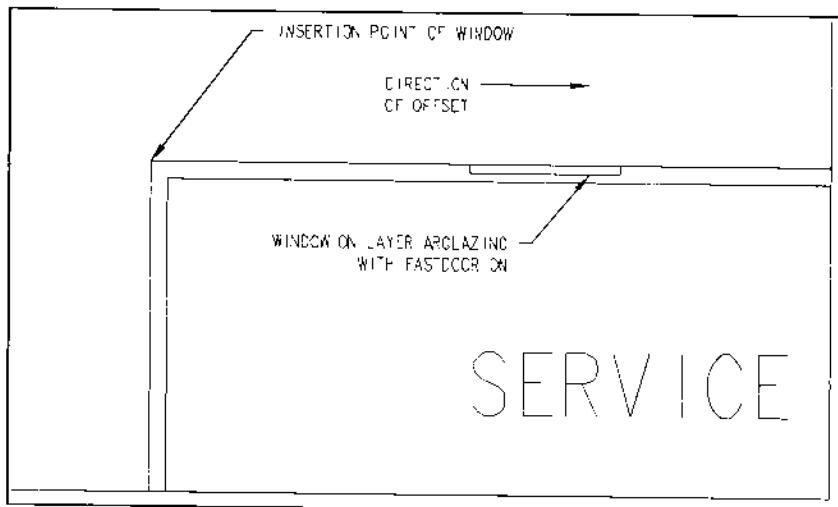

Figure 24.
1. Zoom into the upper left corner of the Service room as shown in Figure 24 to insert window 04 with Fastdoor ON. Use the Osnap intersect or endpoint and offset the window 12'-8" to the right with the Distance option.